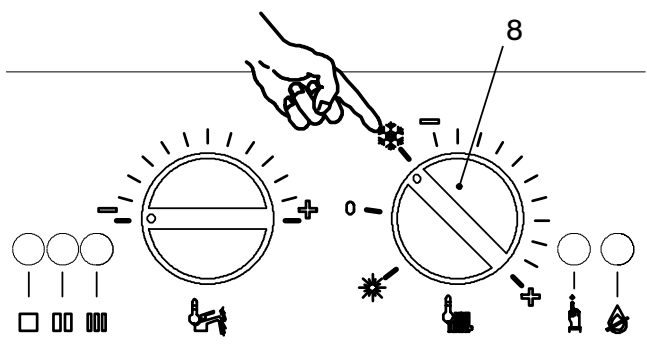

Fig. 7.6
- 2 Make sure that the function selector 8 is set to the position in Fig. 7.6 and that the timer selector switch and room thermostat, if fitted, is set to "demand heat".